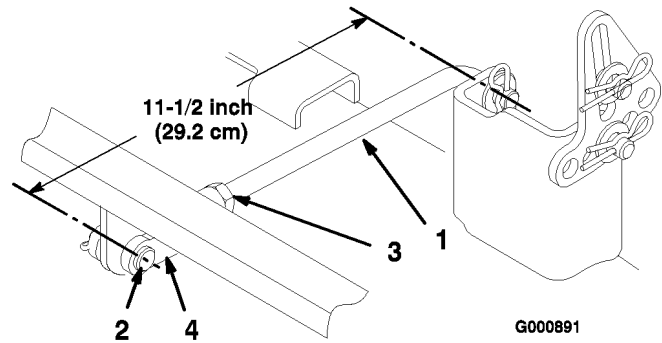
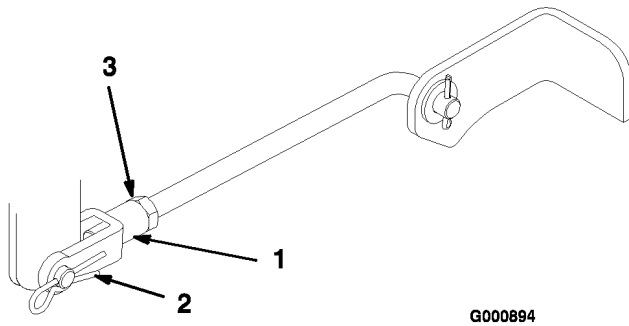

Figure 43
Figure 45
6. Measure the length of the rear trunion rod (Figure 43). If the rod length is not 11-1/2 inch (29.2 cm), remove the clevis pin and cotter pin from the end of the rod (Figure 43), loosen the jam nut, and turn the yoke until the 11-1/2 inch (29.3 cm) dimension is obtained.
10. To adjust the front-to-rear blade slope, remove the hairpin cotter from the front trunion yokes and loosen the jam nuts (Figure 45).
11. Rotate the yokes on the rods to change the adjustment (Figure 45). To raise the front of the mower, tighten the yokes (shorten the rods). To lower the front of the mower, loosen the yokes (lengthen the rods).
13. When the front-to-rear blade slope is correct, tighten the jam nuts (Figure 43 and Figure 45).